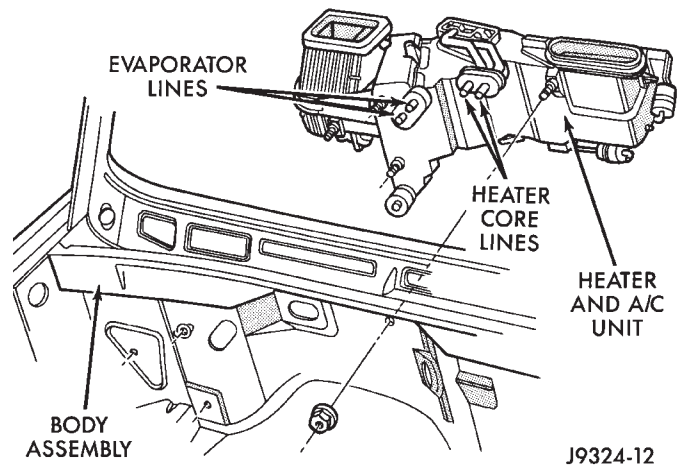

Fig. 51 Heater-A/C Housing Remove/Install
- (1) Disconnect and isolate the battery negative cable.
- (2) Remove the instrument panel from the vehicle. Refer to Instrument Panel Assembly in Group 8E - Instrument Panel Systems for the procedures.
- (3) Recover the refrigerant from the refrigerant system. See Refrigerant Recovery in this group for the procedures.
- (4) Disconnect the liquid line refrigerant line from the evaporator inlet tube. Install plugs in, or tape over all of the opened refrigerant line fittings.
- (5) Disconnect the suction line refrigerant line from the evaporator outlet tube. Install plugs in, or tape over all of the opened refrigerant line fittings.
- (6) Disconnect the heater hoses from the heater core tubes. Clamp off the heater hoses to prevent loss of coolant. Refer to Group 7-Cooling System for the procedures. Install plugs in, or tape over the opened heater core tubes.
- (7) If the vehicle is equipped with the manual temperature control system, unplug the heater-A/C system vacuum supply line connector from the tee fitting near the heater core tubes.
- (8) Remove the coolant reserve/overflow bottle from the passenger side inner fender shield. Refer to Group 7 - Cooling System for the procedures.
- (9) Remove the Powertrain Control Module (PCM) from the passenger side dash panel in the engine compartment and set it aside. Do not unplug the PCM wire harness connectors. Refer to Group 14 - Fuel System for the procedures.
- (10) Remove the nuts from the heater-A/C housing mounting studs on the engine compartment side of the dash panel (Fig. 51).